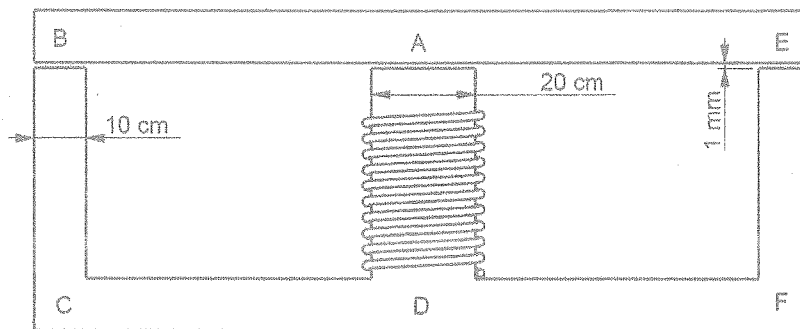

Figure Q1
- Q1 a) The following Figure Q1 shows a cross section of an electromechanical actuator. The air gap is 1 mm as shown in the figure. The model has a depth of 10 cm. The mean length of AB+BC+CD is 300 cm and the mean length of AB+BC+CD is equal to the mean length of AE+EF+FD. The mean length of the path AD is 30 cm. The relative permeability of the material used is 7000 and the permeability of free space is $\mu_0 = 4\pi \times 10^{-7} \text{ Hm}^{-1}$. A magnetic flux of 150 mWb is required at the air gap near point A. (Note: The given mean lengths include air gap length.)